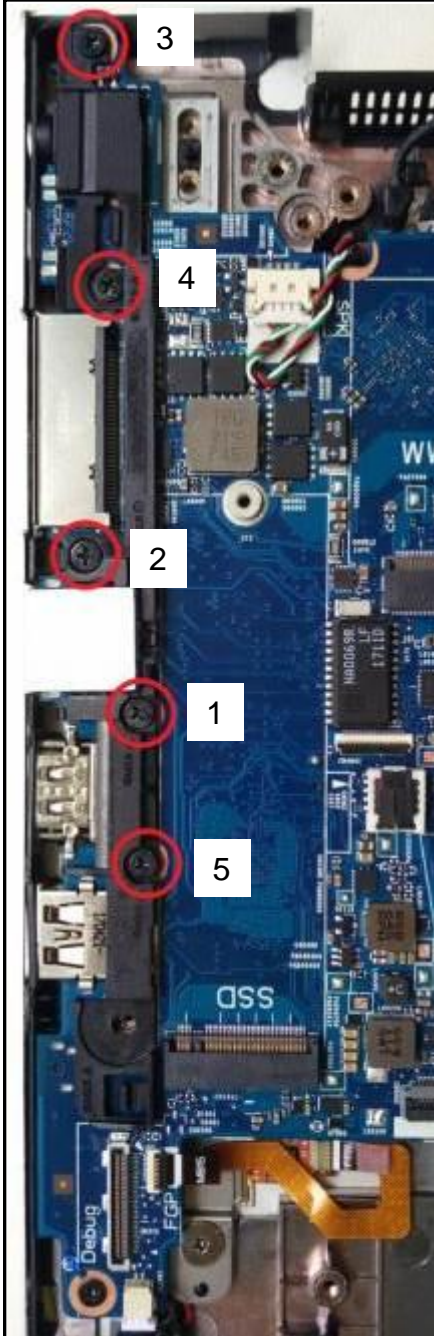

Fig.1
1. Loosen RJ45 screw\*5(M2.0\*4.0)(Fig.1).